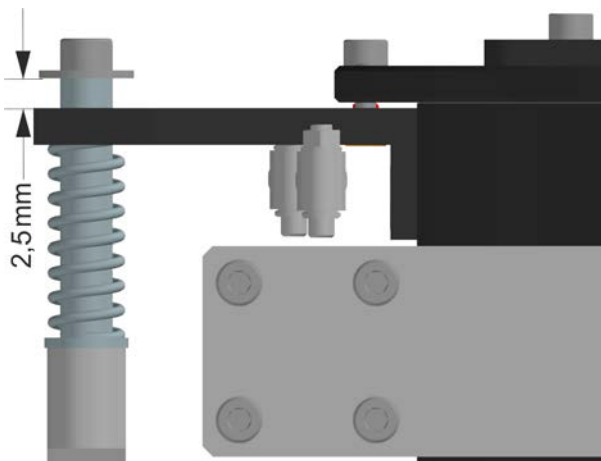

Fig. 20: Springs are deflected
3. Move applicator vertically downwards. With correctly adjusted cleaning position, the springs are deflected by 2.5mm. Check position, e.g. with an allen wrench SW 2.5mm, Fig. 20.